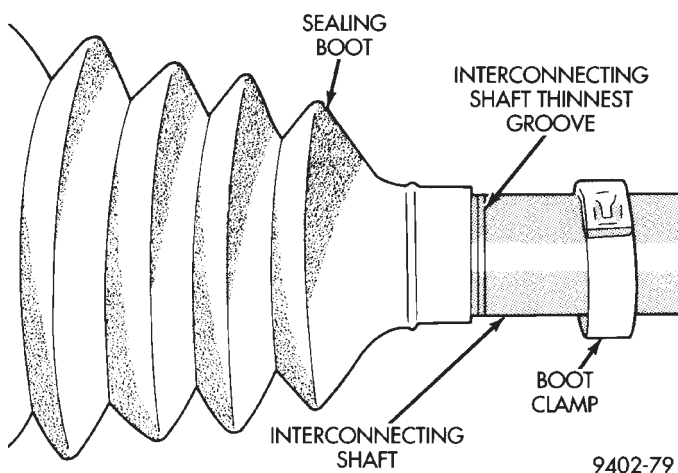

Fig. 26 Seal Boot Correctly Positioned On Interconnecting Shaft
(1) Slide inner tripod joint seal boot retaining clamp, onto interconnecting shaft. Then slide replacement inner tripod joint sealing boot onto the interconnecting shaft. **Inner tripod joint seal boot MUST be positioned on interconnecting shaft, so only the thinnest (sight) groove on interconnecting shaft is visible (Fig. 26).**